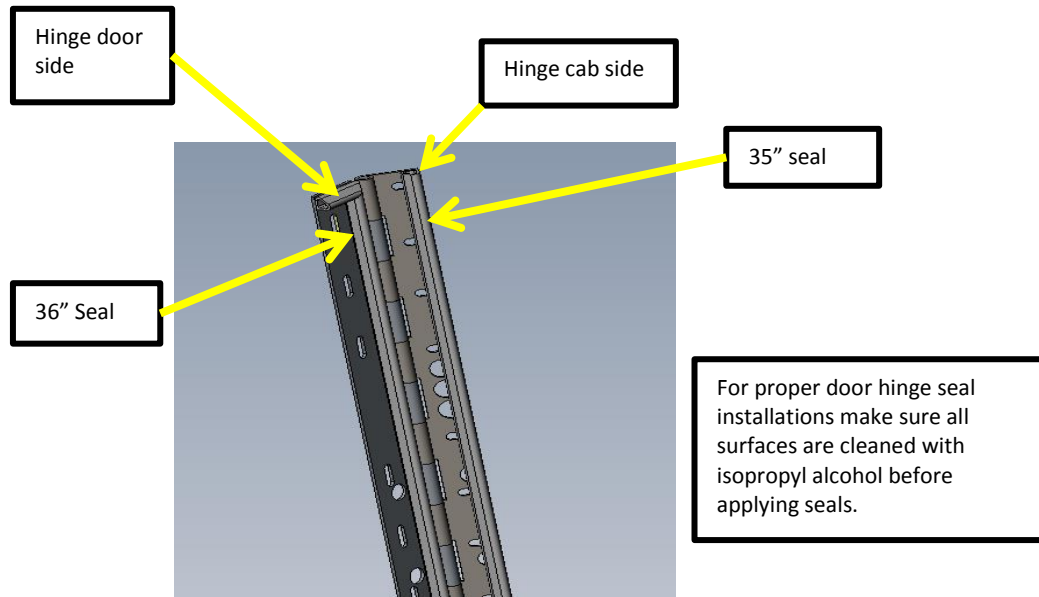
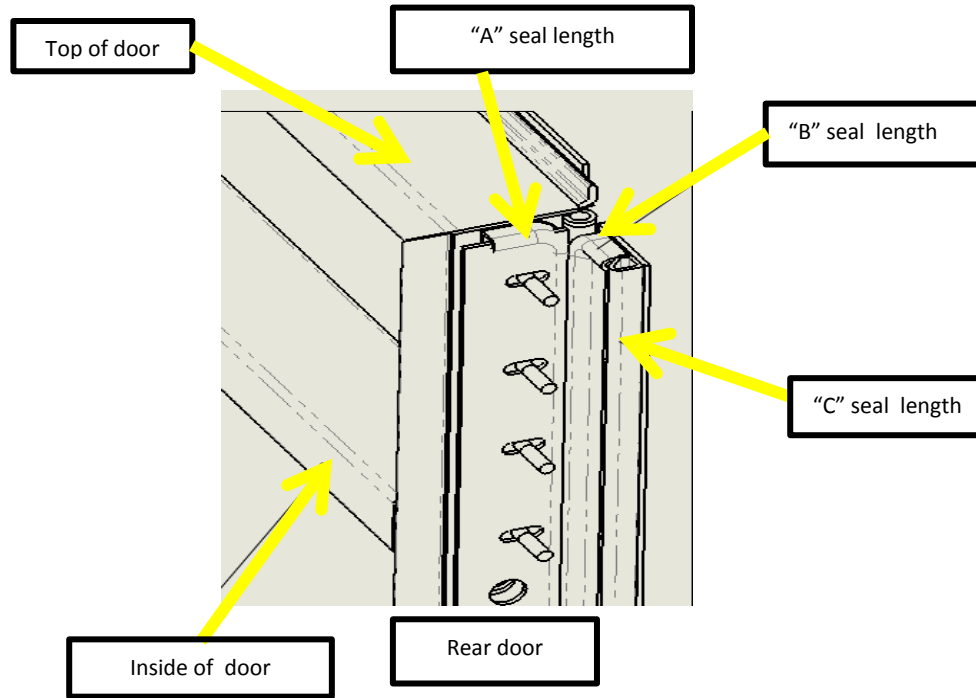
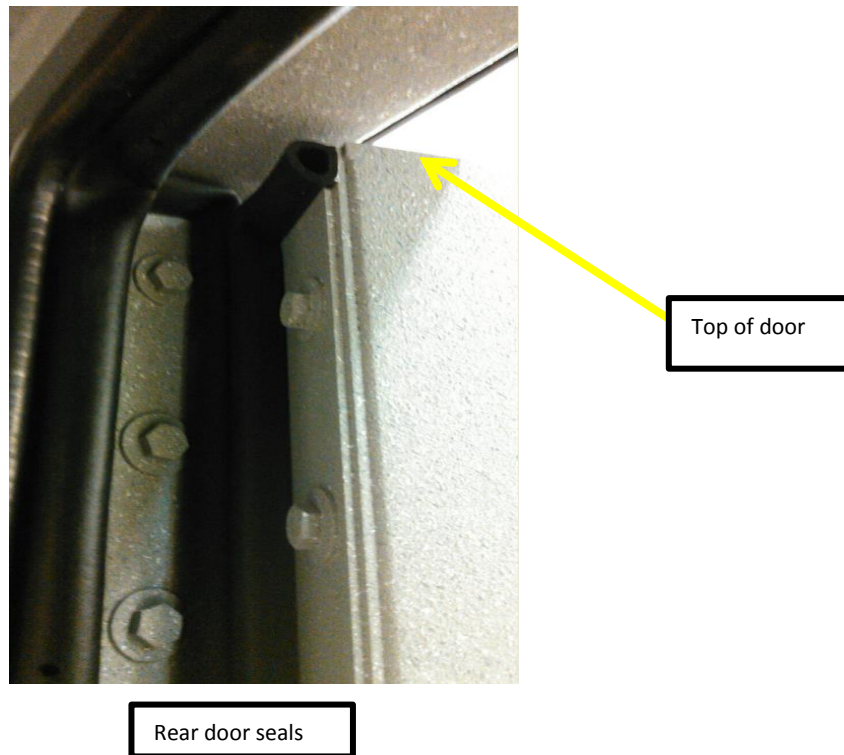

FIG.16-1
FIG.17-1
FIG.18-1
17. New door seals will need to be applied to new door hinges. Refer to FIG. 16-1, FIG.16-2, FIG. 17-1, FIG. 17-2 and FIG. 18-1.